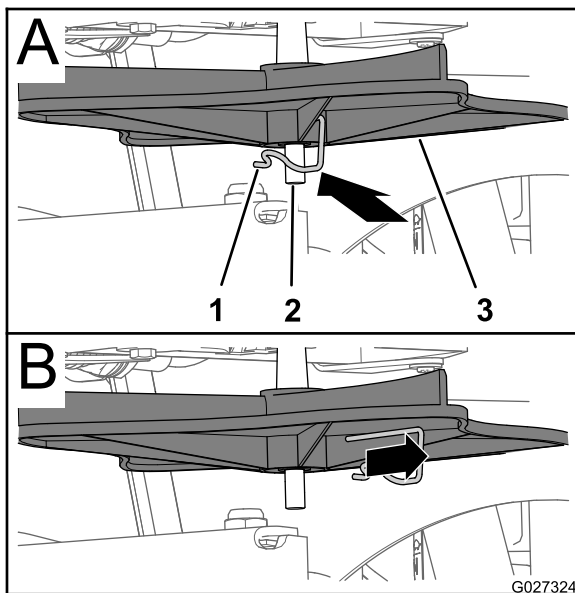
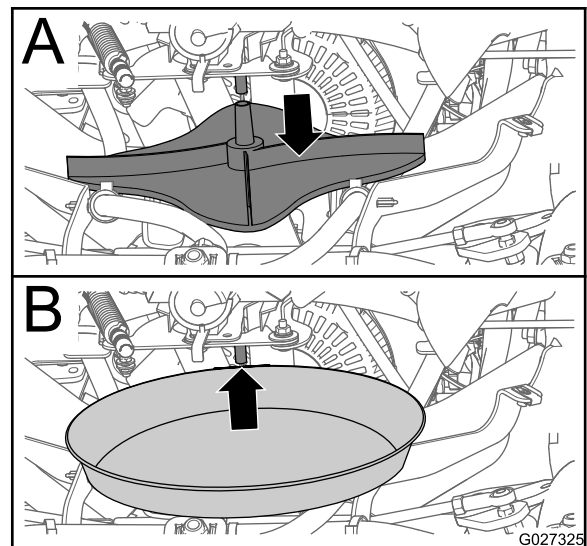

Figure 30
Figure 31
4. Remove the drive pin that secure the impeller to the shaft of the impeller motor, and remove the impeller from the shaft (Figure 30 and Figure 31).
5. Place a shallow pan under the shaft of the impeller motor (Figure 31).